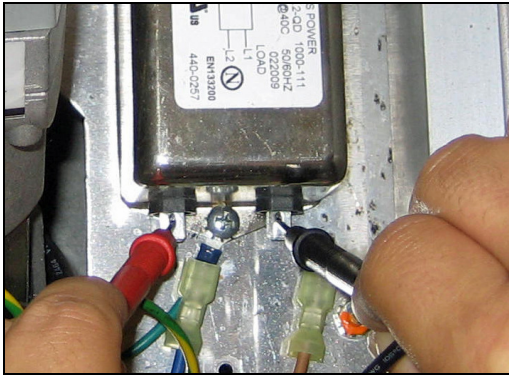

Fig. 3
4. Set the multi-meter to read AC power and check the voltage coming out of the EMI Filter (Fig. 3). The readings should be between: